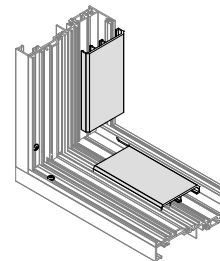

FIG. 5
- Snap PVC shims at sill and jambs, 2" [51] away from each corner and 18" [457] O.C. DO NOT BLOCK WEEP HOLES. **See FIG. 5**